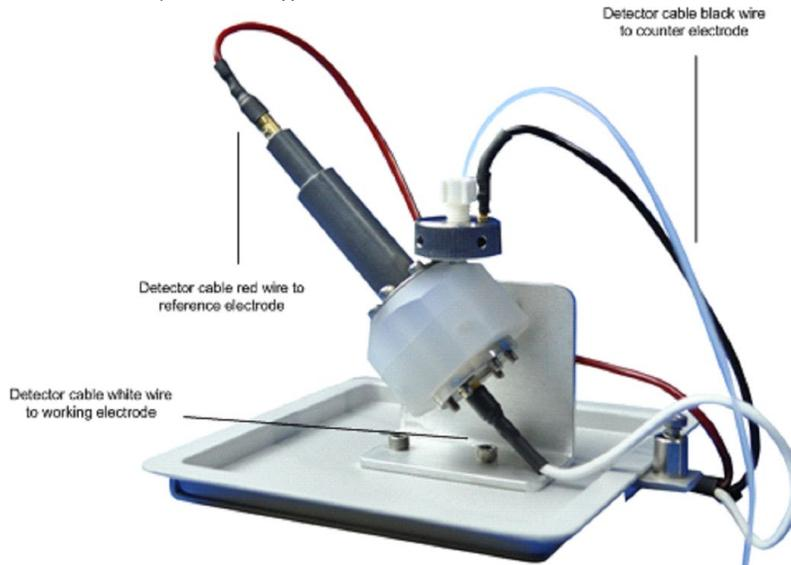

Figure 3.14.
- Refer to Figure 3.14 for steps 5 through 10.